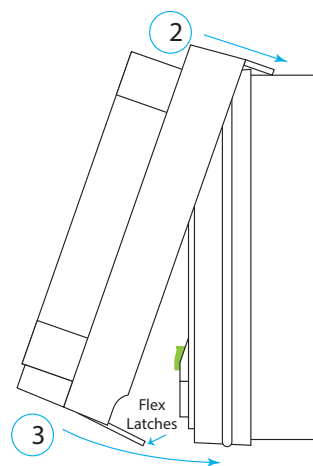

Fig. 7.4
2. Attach the cover by placing the top latch over the ridge and housing seam of the IB7000 (Fig. 7.4).
3. Then, hinge the bottom part of the cover onto the bottom part of the IB7000. If there is resistance, the bottom latches are flexible and can be pried onto the IB7000 (Fig. 7.4).